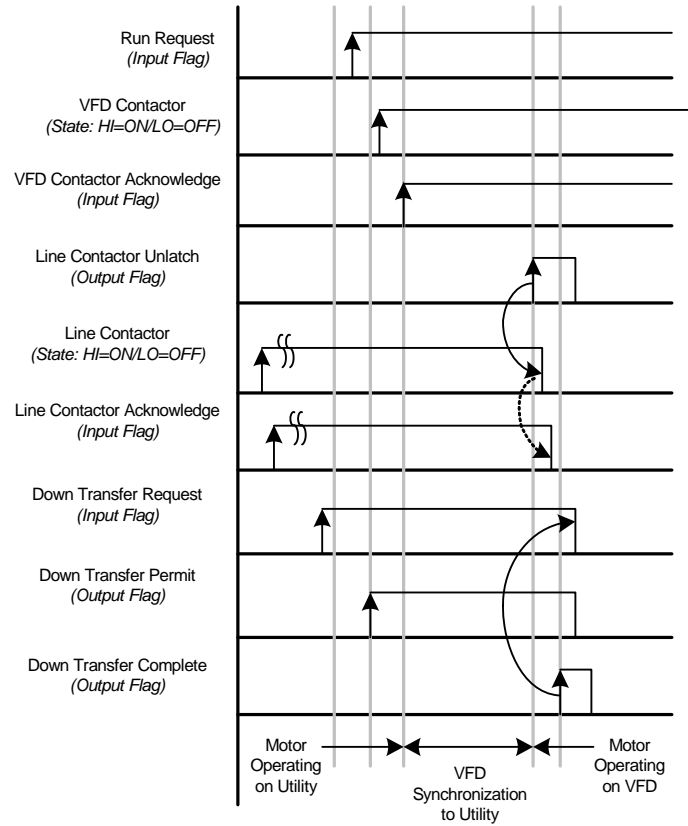

Figure 5-26: State Changes during Down Transfer Sequence
1. The Down Transfer process (refer to Figure 5-26) consists of the following steps. The line contactor is assumed to be closed at the beginning of this procedure.